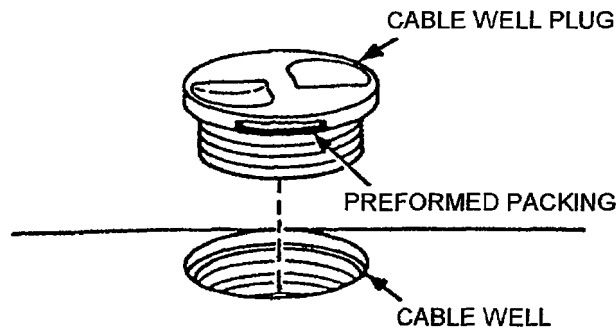

Figure 4-3C. Cable Well Plug Installation
- a. Clean preformed packing seating surfaces in cable well and groove on underside of cable well plug (Figure 4-3C).